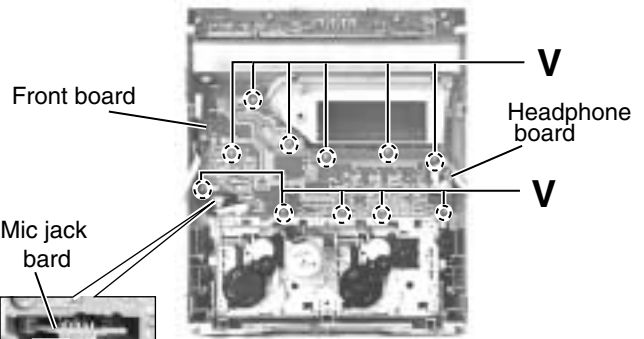

Fig.24
■Removing the headphone board & Mic jack board (See Fig.24)